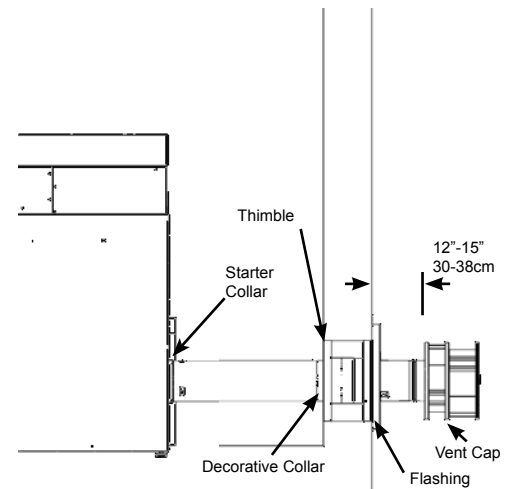

FIGURE 15
6. Anchor the pipe to the Horizontal Flashing with the three brackets using the self tapping sheet metal screws shipped with the flashing. The back/base of the cap is to extend 12-15 inches (30-38 cm) from the flashing. See Figures 15 and 17.